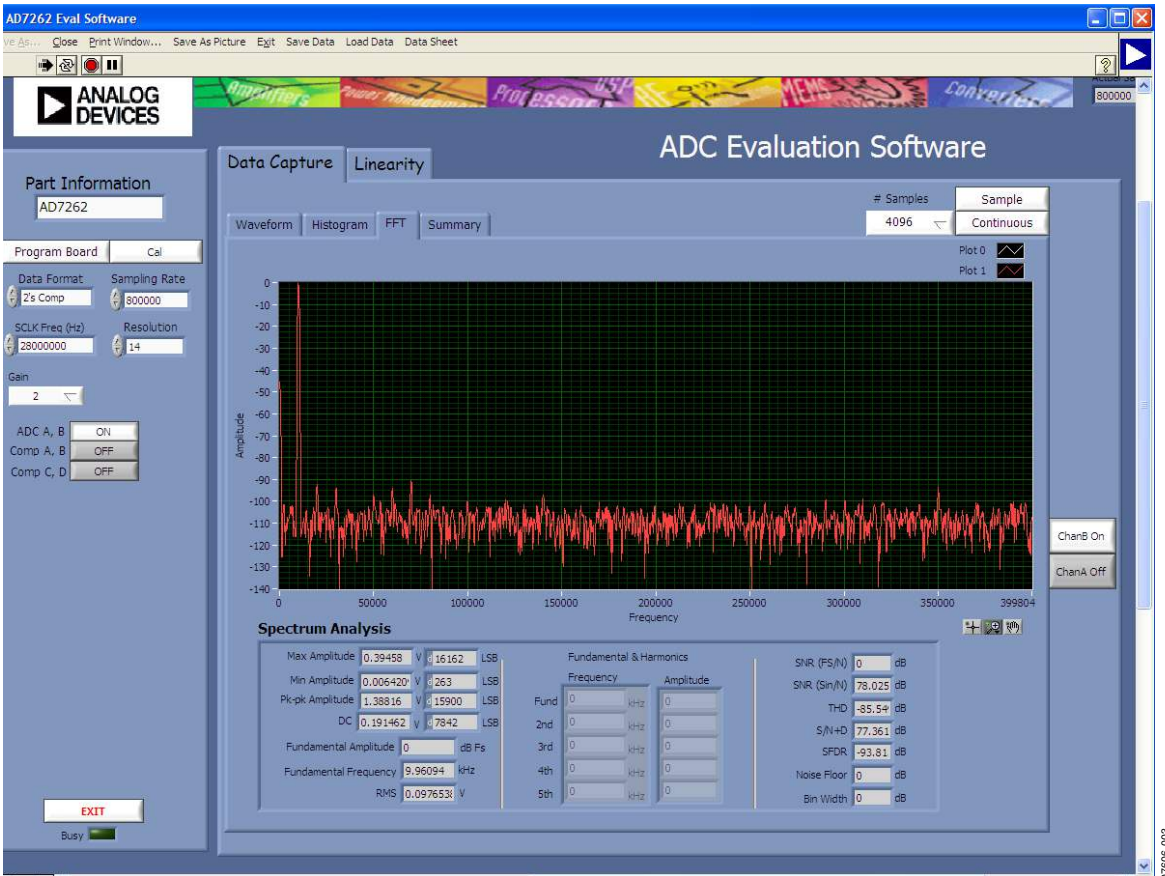

Figure 3. AD7262 Main Window
2. Click the **AD7274/AD7262 icon**. Figure 3 displays the main window that is opened.
The software that controls the EVAL-CED1Z and, therefore, the AD7262/AD7264 evaluation board, has two main windows. Figure 3 shows the window that appears when the software is run. The main function of this window is to allow you to read a predetermined number of samples from the evaluation board and display them in both the time and frequency domain. The top portion of the screen contains the menu bar and the screen can be divided into three main sections: **Part Information**, **Data Capture**, and **Linearity**. The **Data Capture** tab consists of four subtabs: **Waveform**, **Histogram**, **FFT**, and **Summary**. The **Linearity** tab enables you to generate a linearity plot for the device.
The **FFT** tab displays an fast Fourier transform (FFT) plot. The FFT is typically used for examining the performance of the ADC in the frequency domain. The **Spectrum Analysis** section contains information about the samples taken, such as ac specifications (see Figure 3).